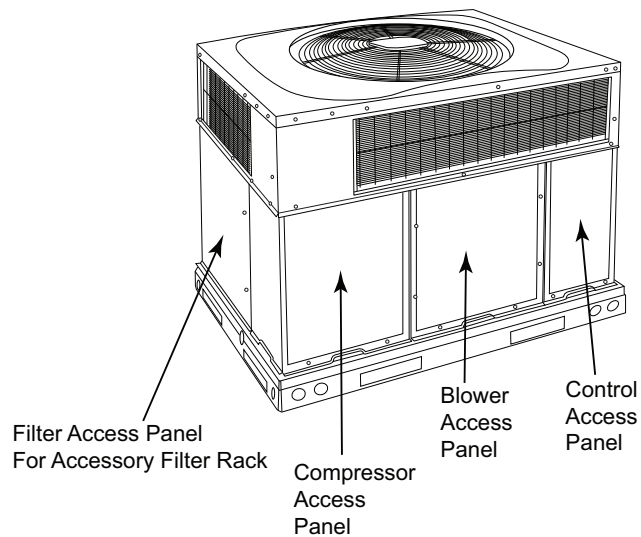
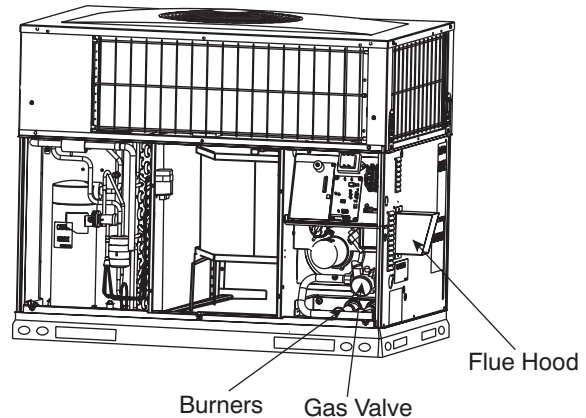
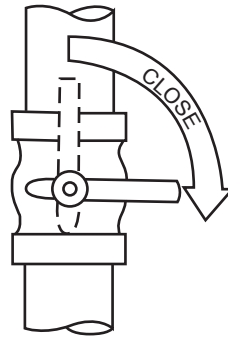

Fig. 2 - Unit Access Panel
Fig. 3 - Gas Heating/Electric Cooling Unit with Access Panel Removed
**Fig. 4 - To Start Unit Gas Heat**
Refer to Fig. 2 for location of unit front access panel. Refer to Fig. 3 for location of gas valve. Refer to Fig. 4 while proceeding with the following steps.
4. Remove the control access panel with a 5/16-in. nut driver. (See Fig. 2.)
4. Remove the control access panel. (See Fig. 2.)